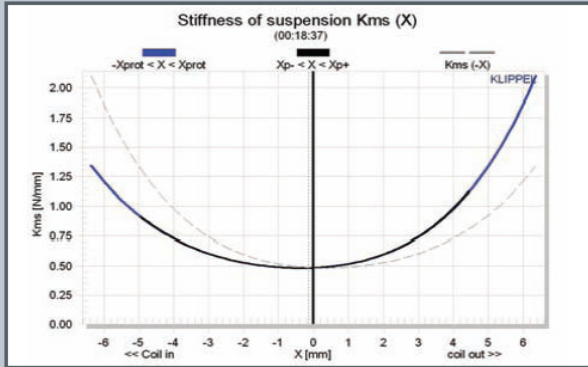
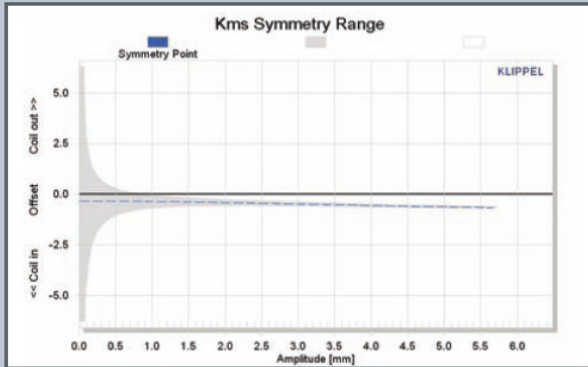

FIGURE 22: Klippel Analyzer mechanical stiffness of suspension  $Kms(X)$  curve for the Scan-Speak 12W/4524G00.
FIGURE 23: Klippel Analyzer  $Kms$  symmetry range curve.
Figures 22 and 23 give the Kms(X) and Kms symmetry range curves for the 4" midwoofer. The Kms(X) curve is even more symmetrical. Figure 23, the Kms symmetry range plot, shows a 0.35mm coil-in offset at the rest position that increases somewhat to 0.5mm at the physical Xmax of the driver. Displacement limiting numbers calculated by the Klippel analyzer for the midrange were XBl at 82% BI = 3.4mm and for XC at 75% Cms minimum was 2.4mm, which means that for this 4" midwoofer, the suspension offset is the most limiting factor for prescribed distortion level of 10%.